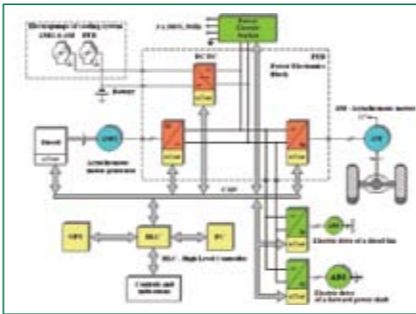

Figure 2: Block-diagram of the TEES of tractor “BELARUS – 3023” developed by RUSELPROM Corp.
- The complete set of a traction electric equipment of the electromechanical transmission (Fig. 2) contains:
- Asynchronous traction motor (AM)